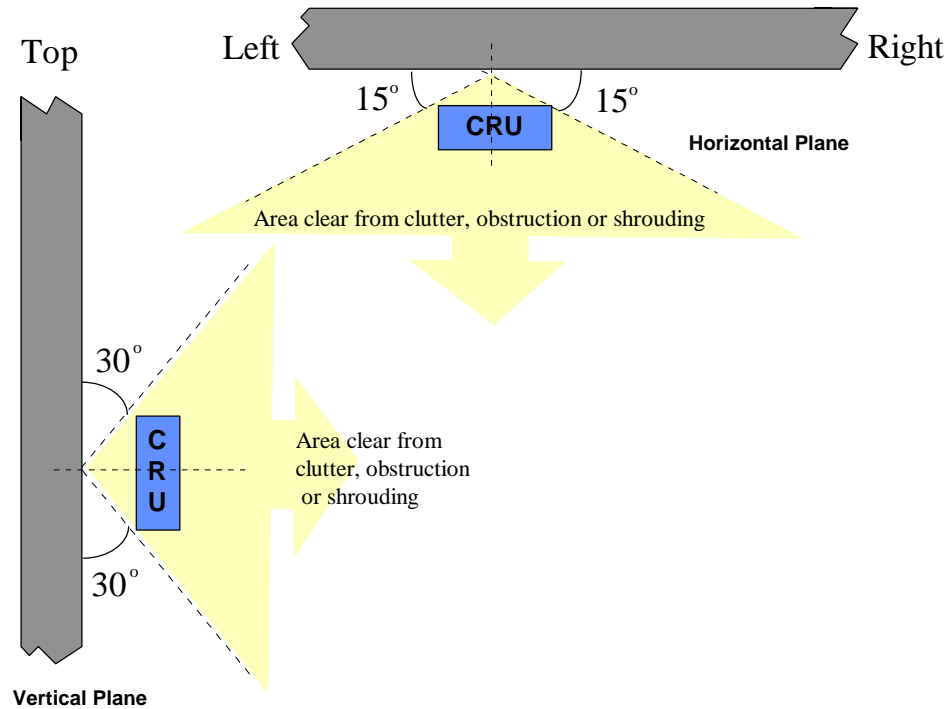

Figure 1-6. CRU Positioning
1. Using the DMM, Using the DMM, measure the DC voltage between Ground (green) and the AGC Monitoring point, (red) on the breakout socket. Whilst observing the voltage on the DMM, pan the CRU through the peak point, then pan back to it. If there is not sufficient panning range use the other mounting point on the CRU mounting bracket in order to pan through the peak. Check that the CRU does not break the CRU positioning criteria as shown in Figure 1-6.